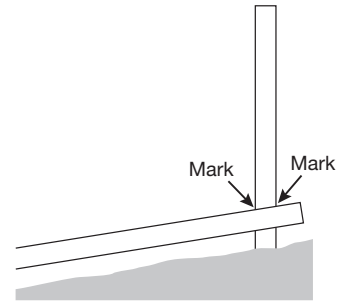

Figure 12
- Mark rail where post crosses it on angle (Fig. 12)